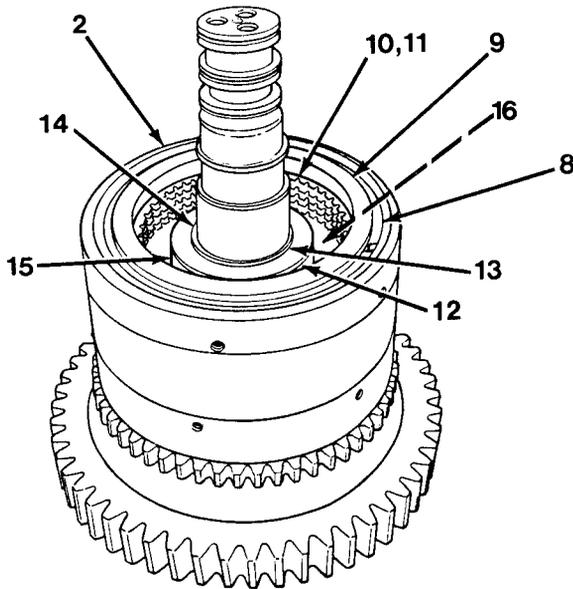

Figure 11-7
8. Remove snap ring (8), clutch plate retainer (9), six clutch plates (10) and clutch separator plates (11, Figure 11-7).
9. Compress four springs (12) and hold down to remove snap ring (13).
10. Remove snap ring (13) from clutch shaft assembly (2).